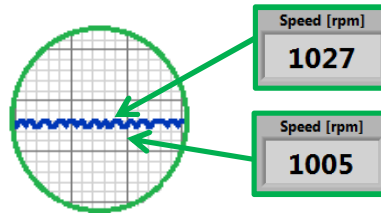

Fig. 27 – Measure of the oscillations
- 5) Measure the oscillation N_{osc} occurring in $X_{Seconds}$ as shown in fig 27 (X can be chosen at random).